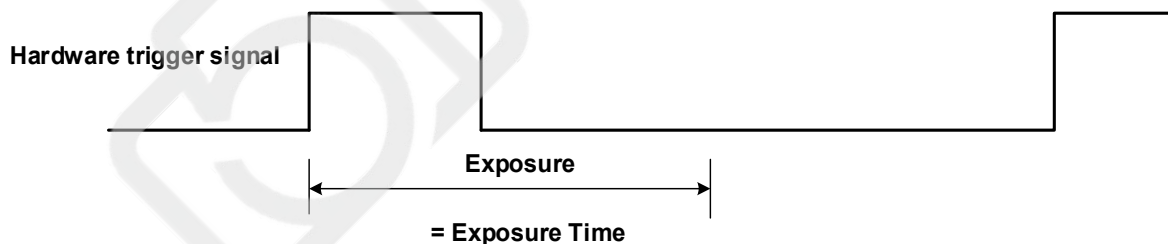

Figure 8-27 The sequence diagram in rising edge trigger of Timed exposure mode
- If rising edge triggering is enabled, exposure starts when the trigger signal rises and continues until the exposure time has expired, as shown in Figure 8-27.